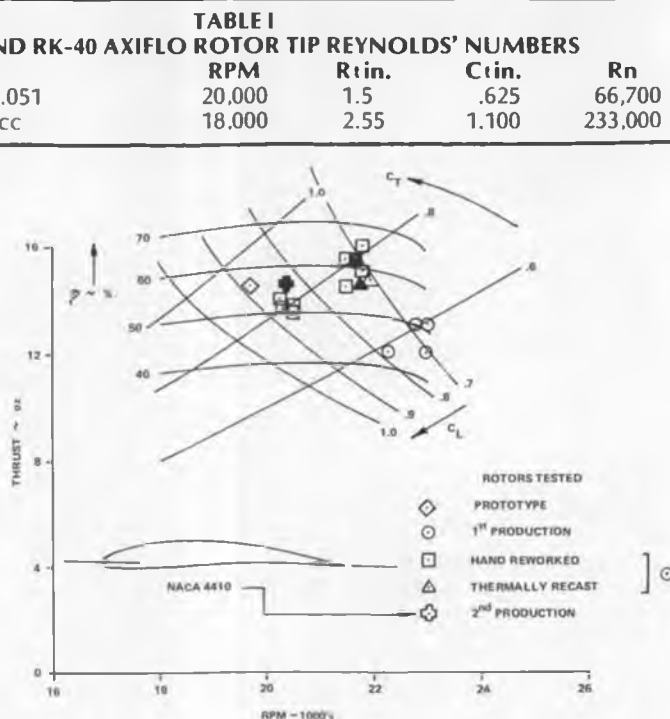
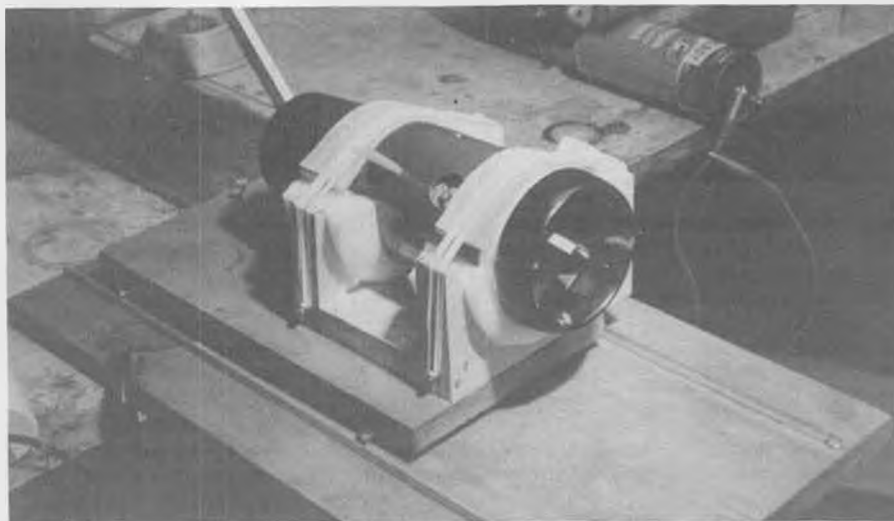

FIG. 2 - RK - 049 AXIFLO ROTOR TESTS
FIG. 3. The author's thrust test stand, accurate to about 1/2 oz.
Fig. 2 is a summary of all of the RK-049 rotor tests conducted to date . . . some 42 in all! All test data points on Fig. 2 were carried out on one of Nick Zirola's 1/2A Heinkel 162 jet pods using the ball-bearing-wheeled cart, rail and spring scale test rig shown in the Fig. 3 photo. RPM was by a Pro-Tach. Fuel used was Cox Racing Fuel containing 30% nitro.
Fig. 2 contains all points tested with near perfect inlets, either a bellmouth or a short, open cowl, which is available from my company, Kress Technology, Inc. Other less perfect inlets were tested as will be discussed later, but at this point we are only concerned about how well various rotors performed holding the inlet constant. The tailpipe on the jet pod was 4 inches long and had an exit diameter of 2.84 in., close to the "zero contraction" tailpipe diameter of 2.77 in.
The data points of Fig. 2 are superimposed on a basic thrust coefficient (CT) grid. Thrust coefficient is defined as:
If the engine brake horsepower vs. rpm curve is known, as for the TD .049 in Fig. 2, one can superimpose constant rotor efficiency and constant blade
4) The second production rotor (Maltese cross) turned out to be right on at 14-1/2 oz. at 20,300 rpm. Tip angle was 27° and airfoils were, as specified, very nice renditions of the NACA 4410, for which the shape is shown in Fig. 2. I suspect that the TD .049 may have been varnished up a bit in this test and could have done better. Also, my thrust stand accuracy is about ± 1/2 oz. At any rate, the die was cast, so to speak, and I quit rotor testing while I was still ahead.